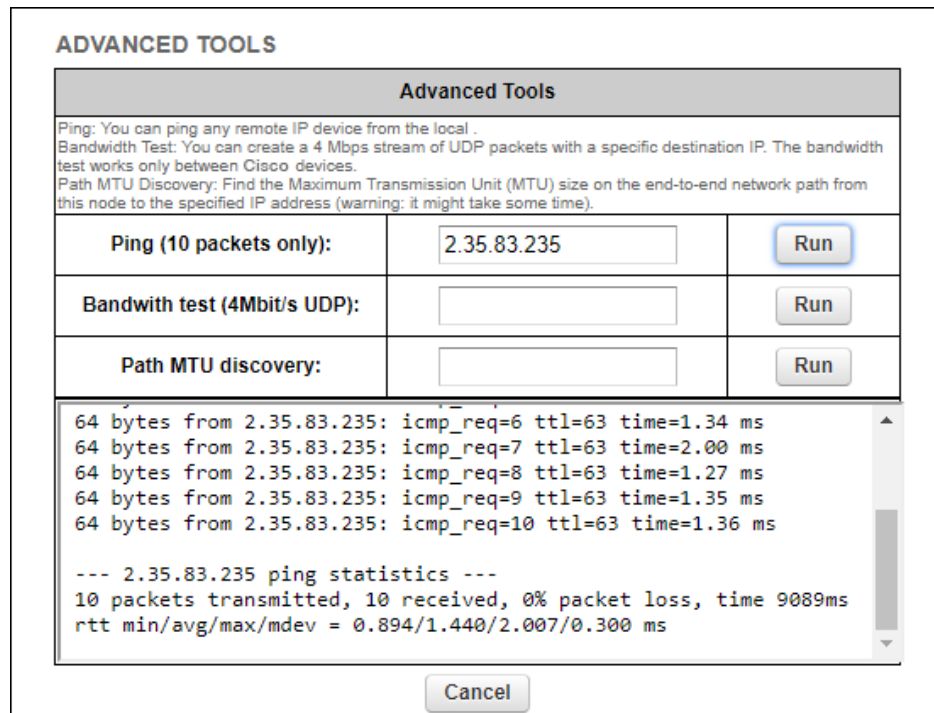

Figure 25. Advanced Tools window (Ping test tool)
2. Enter the IP address of the other unit in the **Ping (10 packets only)** field (Figure 25 \(page 68\)).